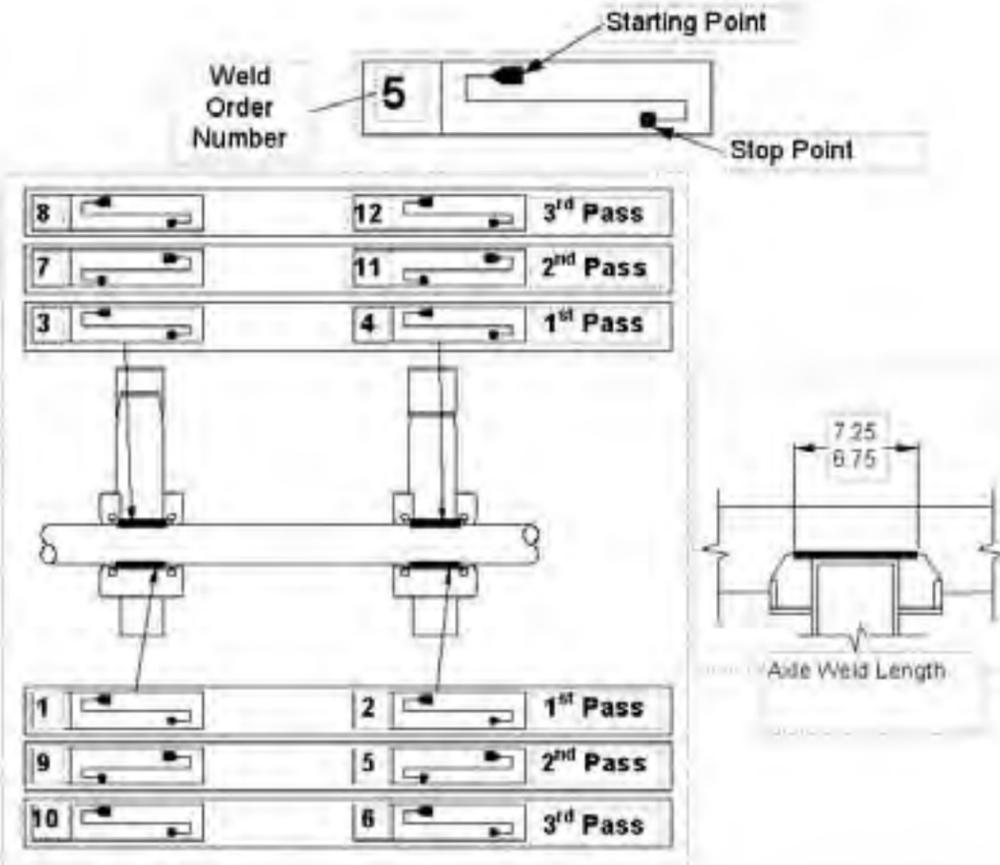

Figure 7
Welds should not be started or stopped at the end of the weld pass. They should be stopped and started away from the ends as shown in Figure 7. Do not wrap the corners of the axle seat while welding.
2. Start welding in the sequence shown in Figure 7 at the rear side where the axle and seat meet. Make all first pass welds at all areas before proceeding to the second pass.
3. Figure 7 also shows the length of weld for both overslung and underslung models.